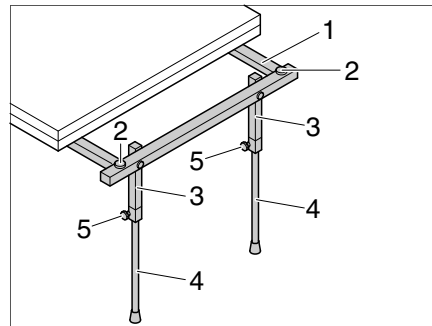

Fig. 114 Move legs into vertical position
- If necessary, extend the telescopic supports (Fig. 114, 3 and 4) to stabilise the tabletop.